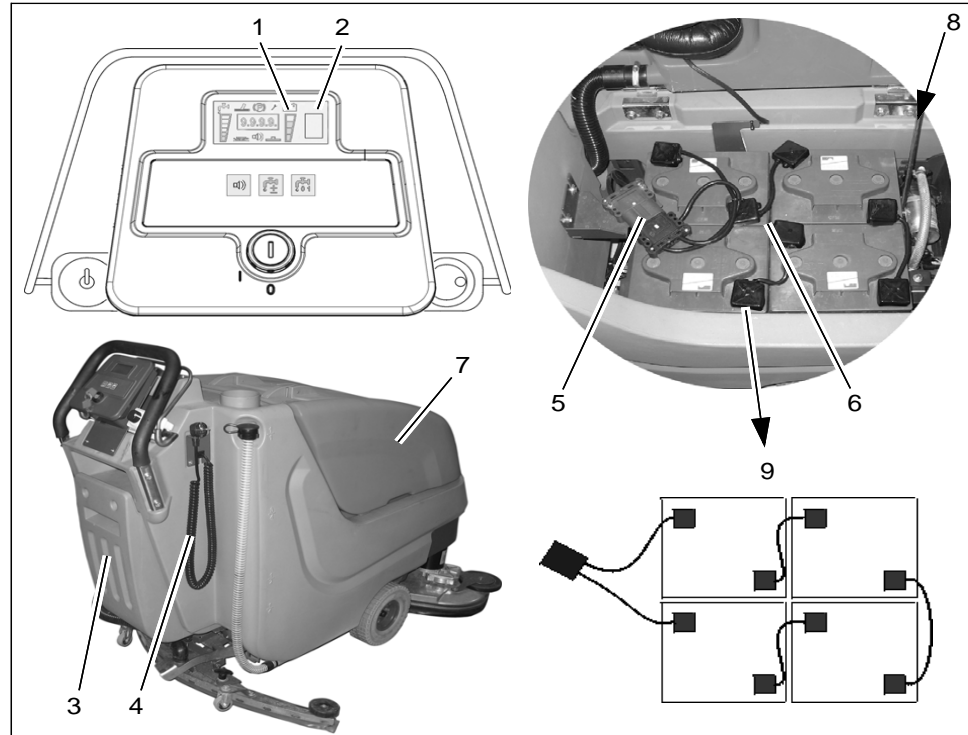

Fig.7
Use the integrated battery charger (Fig. 7/3) to charge batteries. Connect the charger by means of the mains cable (Fig. 7/4) with safety plug. Charging batteries is recommended if at least one bar of the LDS display has extinguished after operation of the machine. Observe the operating instructions of the charger 88-60-2723 as well as the operating instructions of the battery manufacturer. If the battery type is changed (ex. from lead acid to gel) the charger has to be adjusted by a Minuteman contract workshop.
- 3 Open empty recovery tank (Fig. 7/7) and secure by support (Fig. 7/8).
- 4 Disconnect battery connector (Fig. 7/ 5).
- 2 Open empty recovery tank (Fig. 7/7) and secure by support (Fig. 7/8).
- 4 Connect battery poles and enclosed connecting cables according to wiring diagram (Fig. 7/9). Tighten fasteners and grease poles.